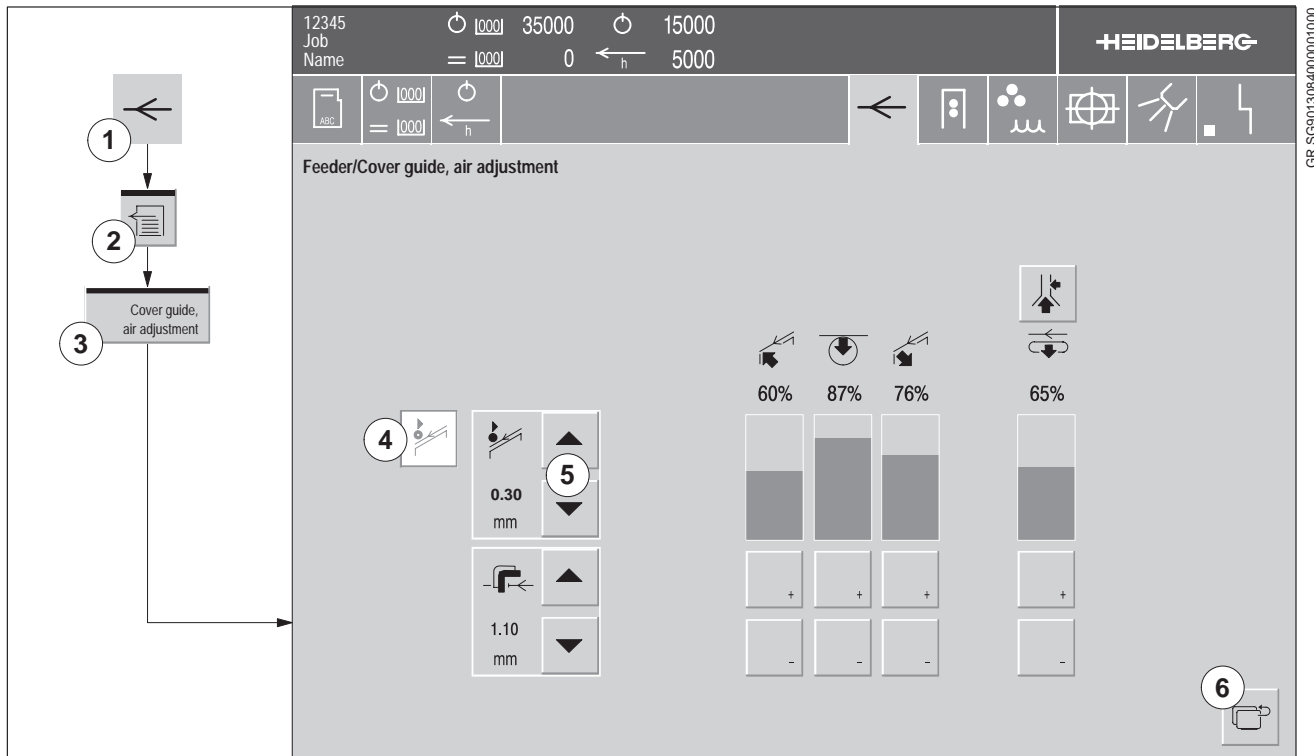

Fig. 5 Separator roll bar in cardboard mode
The **Feeder/Cover guide, air adjustment** menu enables you to select cardboard mode for the separator roll bar, even if you are using thin printing materials (< 0.4 mm). If the stock thickness exceeds 0.4 mm, cardboard mode is selected automatically and cannot be deselected afterwards (Fig. 5/4).
1. Press the *Sheet travel* button (Fig. 5/1) in the banner line. The **Paper run** menu appears.
2. Press the *Feeder* button (Fig. 5/2). The **Paper run/Feeder** menu appears.
3. Press the *Cover guide, air adjustment* button (Fig. 5/3). The **Feeder/Cover guide, air adjustment** menu (Fig. 5) appears.
4. To select cardboard mode: Press the button (Fig. 5/4). The button is now highlighted.
5. Use the arrow keys (Fig. 5/5) to change the preset separator roll height.
6. To exit the menu: Press the *Return* button (Fig. 5/5), or a button in the banner line.